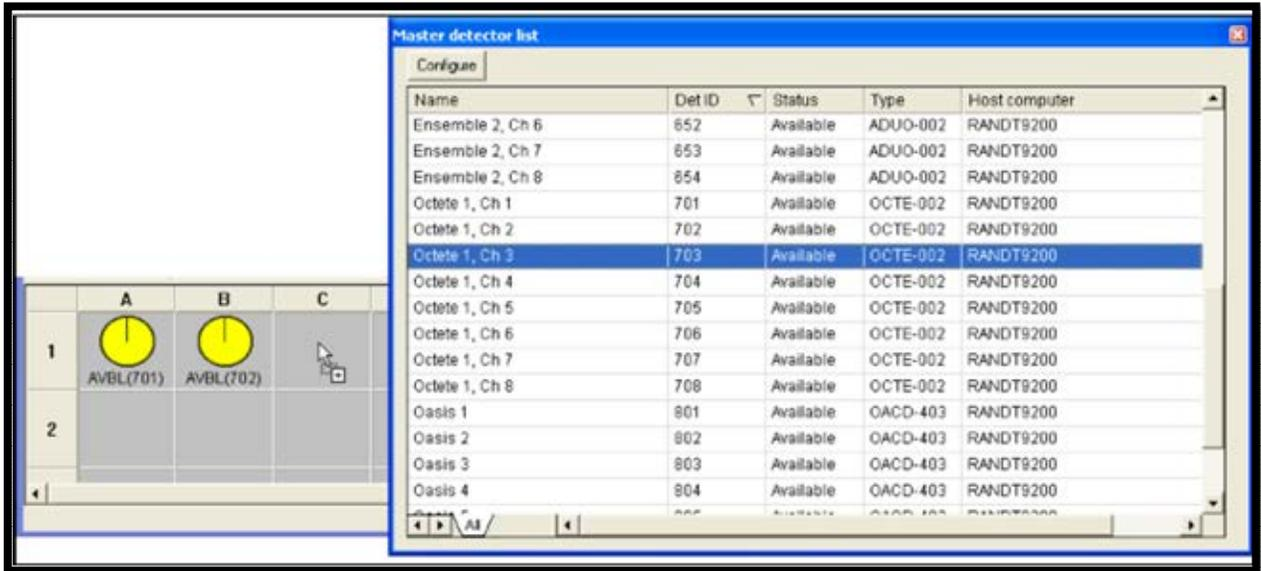

Figure 149. Master Detector List
- 2) Figure 149 shows the Master Detector List. To add a detector to the grid, go to the Master Detector List, and click and drag the desired detector from the list to the grid.